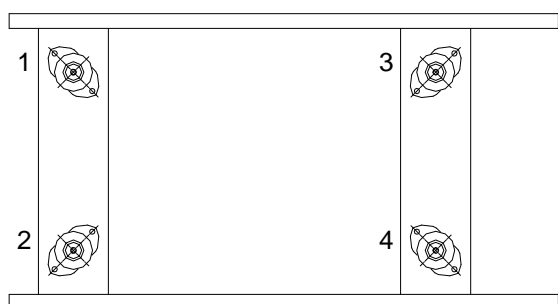

Figure 1
4. Using the measurement method in figure 1, confirm that all criteria specified are met.
6. Once the criteria outlined in figure 1 is met, fully engage the mounting fixing bolts. Note: Mounting fixing bolts must not strain the mounting in any direction. The mountings are not designed to accommodate angular misalignment, variations in level, excessive horizontal forces or tensile forces. (Fixing bolts supplied by others).